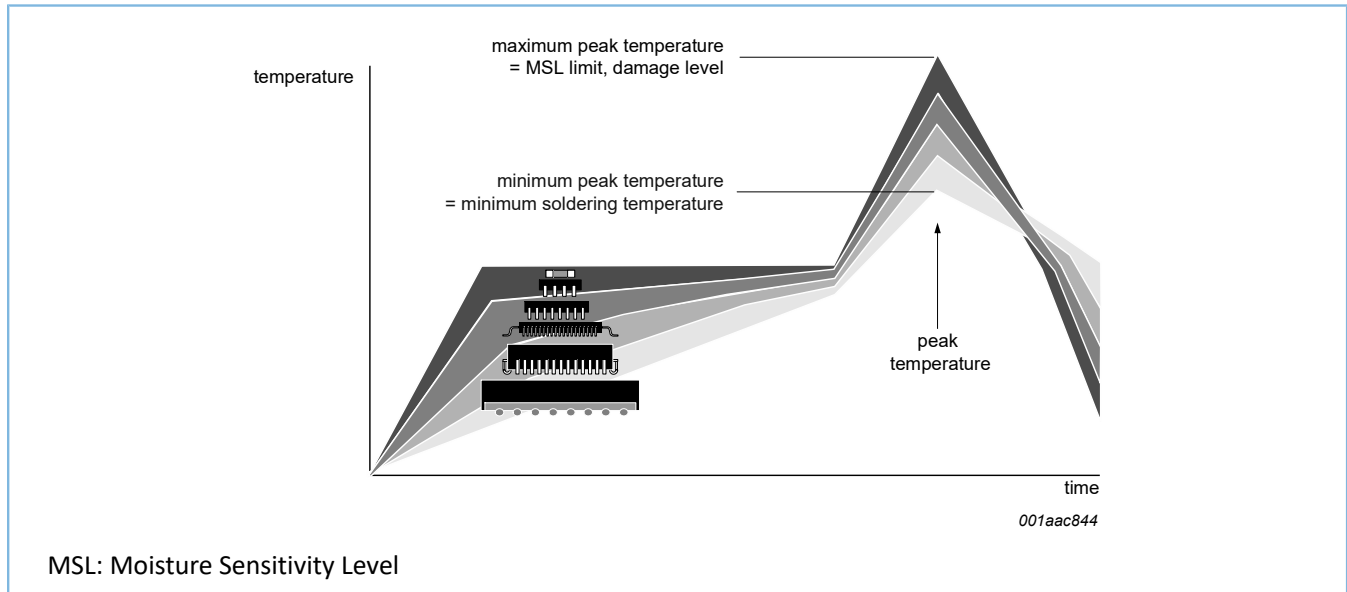

Figure 15-1: Temperature profiles for large and small components
- Lead-free versus SnPb soldering; note that a lead-free reflow process usually leads to higher minimum peak temperatures (see Figure 15-1) than a SnPb process, thus reducing the process window
Studies have shown that small packages reach higher temperatures during reflow soldering (see Figure 15-1).